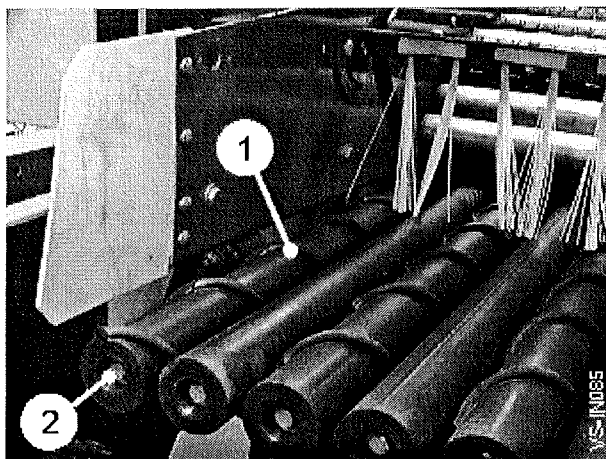

Fig 20
The rollers are retained on the cleaner unit shafts by a single bolt and washer (item 1, fig 20). To remove a roller, remove the bolt and slide the roller off the shaft. The rollers are a close fit on the spigot at the gearbox end and may need to be prised off or bumped free. When replacing a roller, it is advisable to smear grease on the spigot. Take care to align the driving flats as the shaft slides home and do not force them if they are not in line.